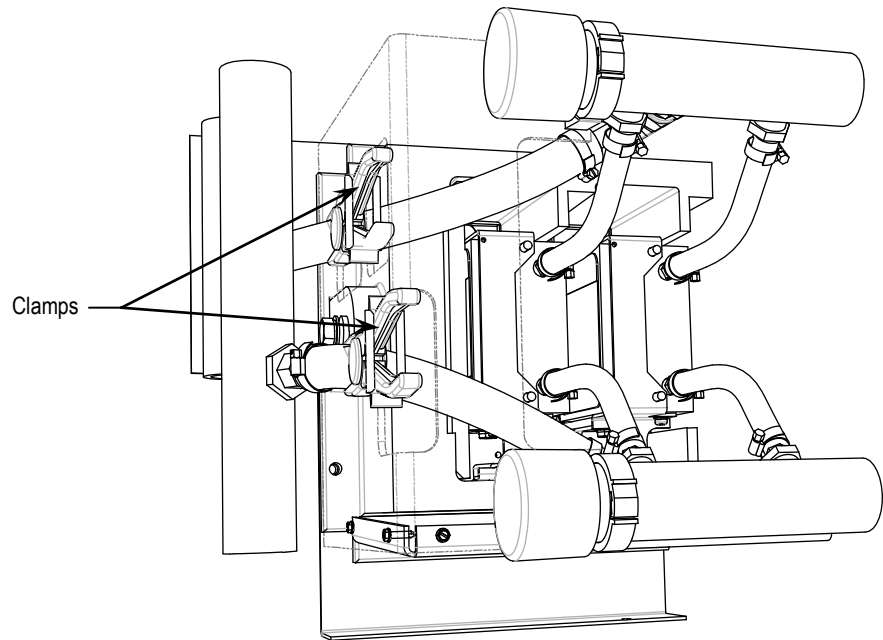

Figure 4.27 – Converter PowerCage Module (Service – per Step 6)
7. Have a hose plug assembly and a M10 bolt ready. Per Figure 4.27, pull the hose from the upper manifold hose barb and collect the fluid in a container.